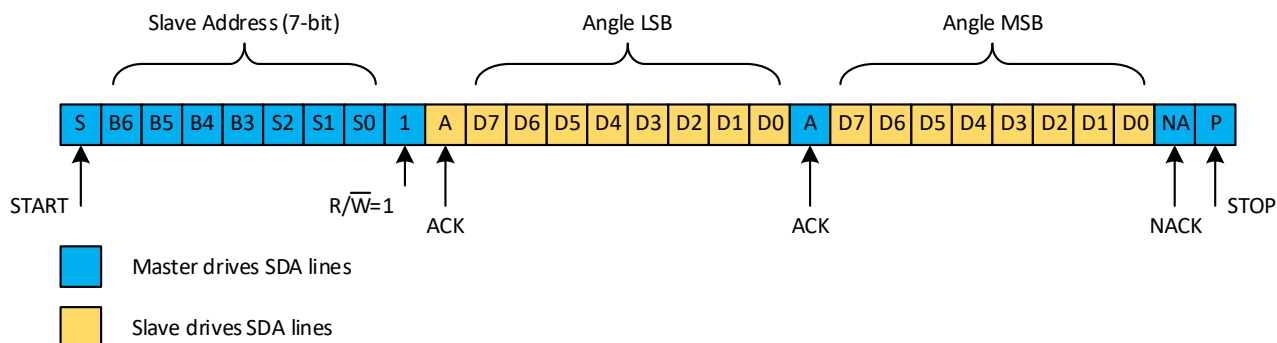

Figure 26: 16-bit angle I²C Quick Read
- As in the I²C Read case, the controller determines how many register values are sent by the sensor. Figure 26 shows an I²C Quick Read operation to read the 16-bit angle.